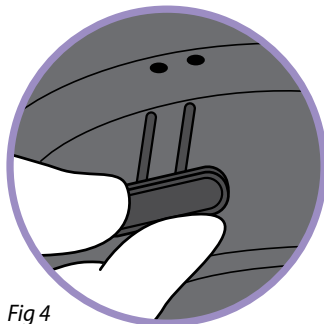

Fig 4
5. Remove cup holders, if applicable. Open the dispenser lid using the key provided in the replacement kit (Fig 4).